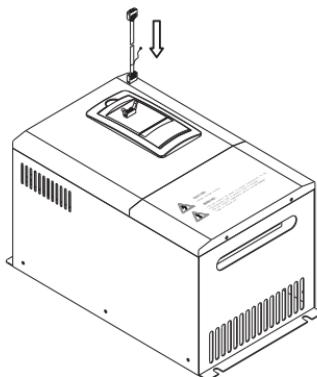

Fig. 3-14 Mounting Diagram for the operator panel and connecting wire of the inverter Model B
**Step3.** Insert the connection cable with the grounding side into the slot of the interface board . (as shown in Figure 3-14).